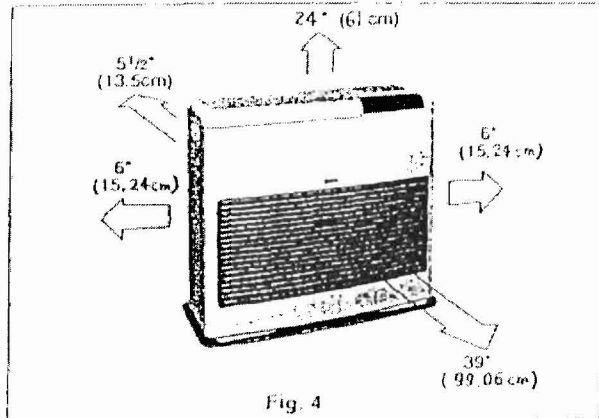

Fig. 4
- The area around the heater should be free of obstacles that might interfere with the free flow of air. Allow the clearances shown in Figure 4
- Refer to Figure 4 to provide adequate accessibility clearances for servicing.